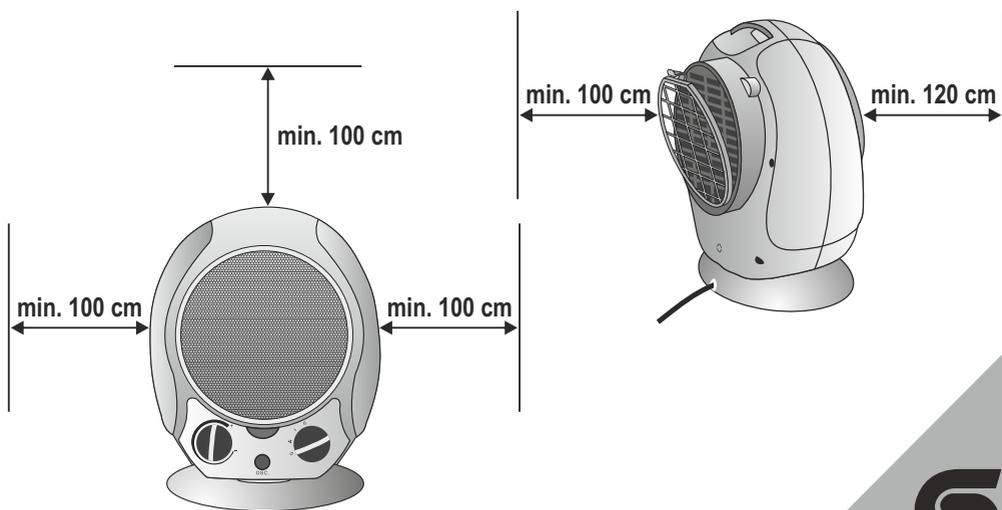

figure 2. • 2. ábra • 2. obraz • figura 2. • 2. skica • 2. skica • 2. obrázek • rys. 2. • 2. slika
2. Never locate the unit directly in corners and observe the minimum mounting distances indicated in Figure 2. Always observe the health and safety regulations valid in the country of use.
3. Set the appliance on a stable and horizontal surface. The free flow of warm air must be ensured for proper operation, therefore, please note the minimum installation distances indicated in **Figure 2**.
4. Verify that the unit's mode selector (3) is in the OFF "0" position.